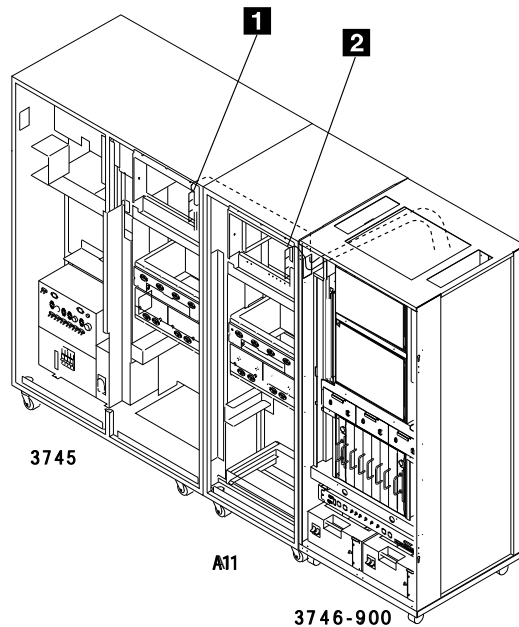
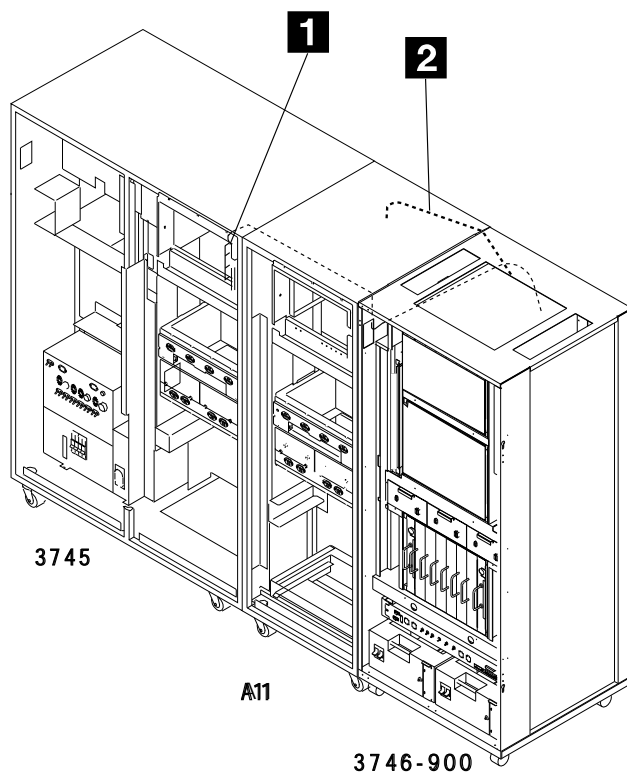
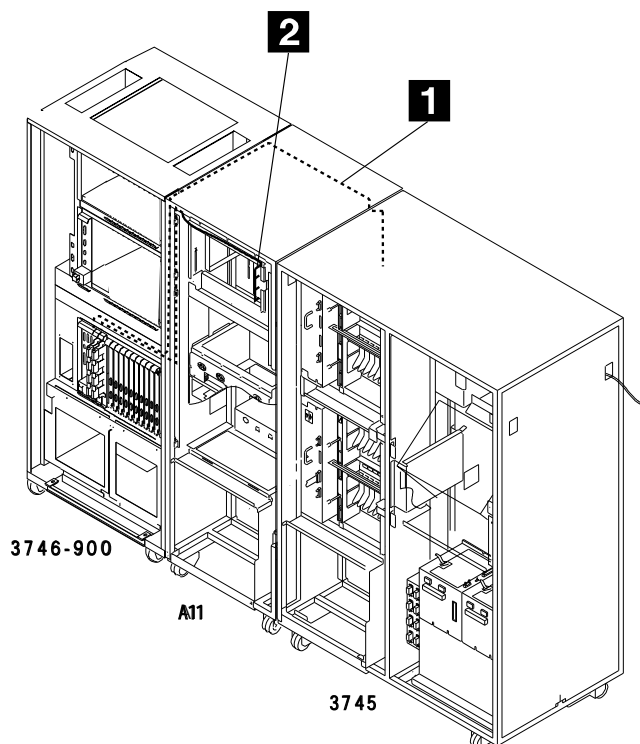

Figure 4-21. Cabling from the 3746-900 to the 3745 and 3746-A11 (IOC to LAB2, DMA to LAB1) (Front View)
Figure 4-22. Cabling from the 3746-900 to the 3745 and 3746-A11 (IOC to LAB3, DMA to LAB1) (Front View)
Figure 4-23. Cabling from the 3746-900 to the 3745 and 3746-A11 (IOC to LAB3, DMA to LAB1) (Rear View)
- If **LAB 3** is **not installed**, 02A-A1X02, X03, X04, X05 and refer to Figure 4-21 on page 4-23
- If **LAB 3** is **installed**, 02F-A1X02, X03, X04, X05 and refer to Figure 4-22 on page 4-24 and Figure 4-23 on page 4-24
- Step 4. ____ Unroll and route the IOC cables **2** through the upper side windows from the 3746-900 to the rear of the 3746-A11 unit (see Figure 4-23 on page 4-24) or to the front of the 3746-A11 unit if no LAB3 (see Figure 4-21).
- Step 16. ____ Unroll and route these DMA cables through the upper side windows and through the 3746-A11 from the 3746-900 to the 3745 board 01G-A1 (see Figure 4-22 on page 4-24). Fold the DMA cables going to W02, W03, W04 and W05 according to the fold marks on these cables.